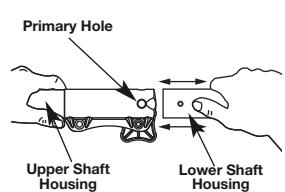

Fig. 9
3. While firmly holding the upper shaft housing, pull the lower shaft housing straight out of the EZ-Link™ coupler (Fig. 9).
2. While firmly holding the add-on, push it straight into the EZ-Link™ coupler (Fig. 9).